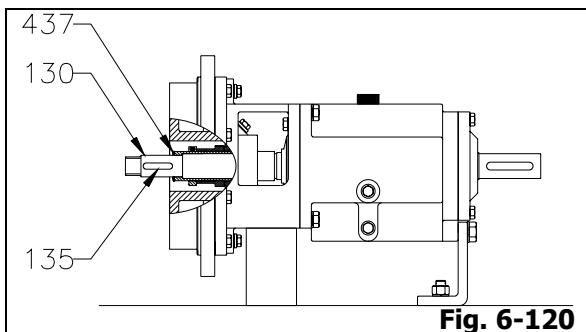

Fig. 6-120
1. Install shaft sleeve gasket (437) and key for impeller (135) onto shaft (130) (Fig. 6-120).